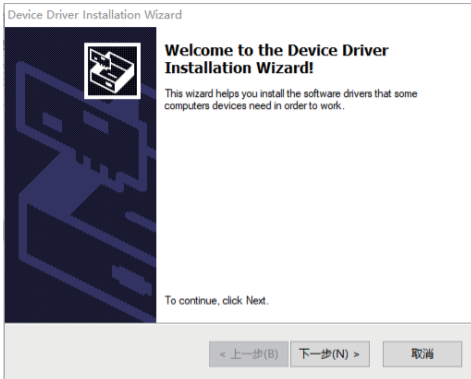

Figure 8
g) The Driver Installation Interface as shown in Figure 8 ,click “next step”, the Driver Installation is finished.